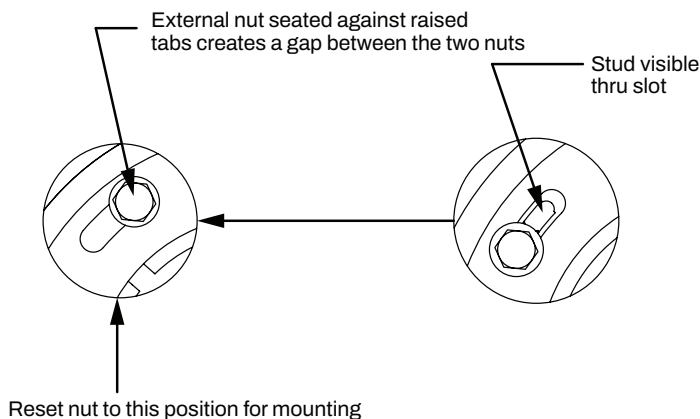

Figure 6 - External nut position for installation
2. Loosen the hex head mounting bolts and position the external nut so that it is seated on top of the raised tabs, which creates the gap between the external and internal nuts. The external nut should be rotated counterclockwise so that the bolts are shouldered against the side of slot as shown in Figure 6. Thread the hex head bolts into the internal nut through each one of the slots on the external nut about three turns.